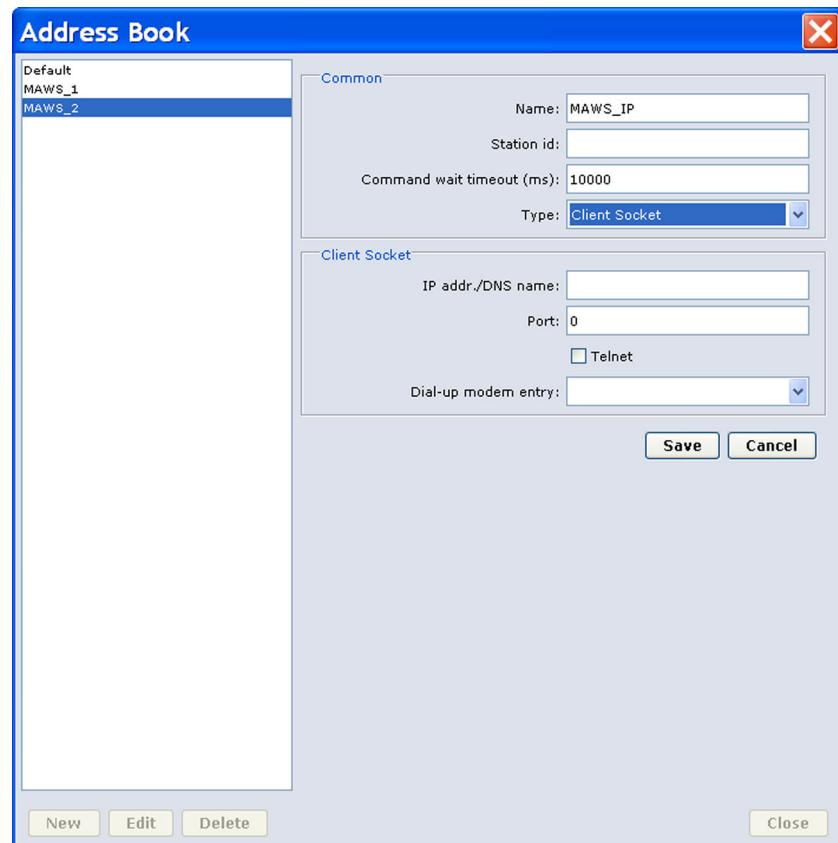

Figure 24 Creating TCP/IP Socket Connection Address Book Entry
3. From the **Type** list, select **Client socket** or **Server socket** as the connection type. The fields for selecting the TCP/IP connection parameters, shown in Figure 24 on page 49, are displayed.